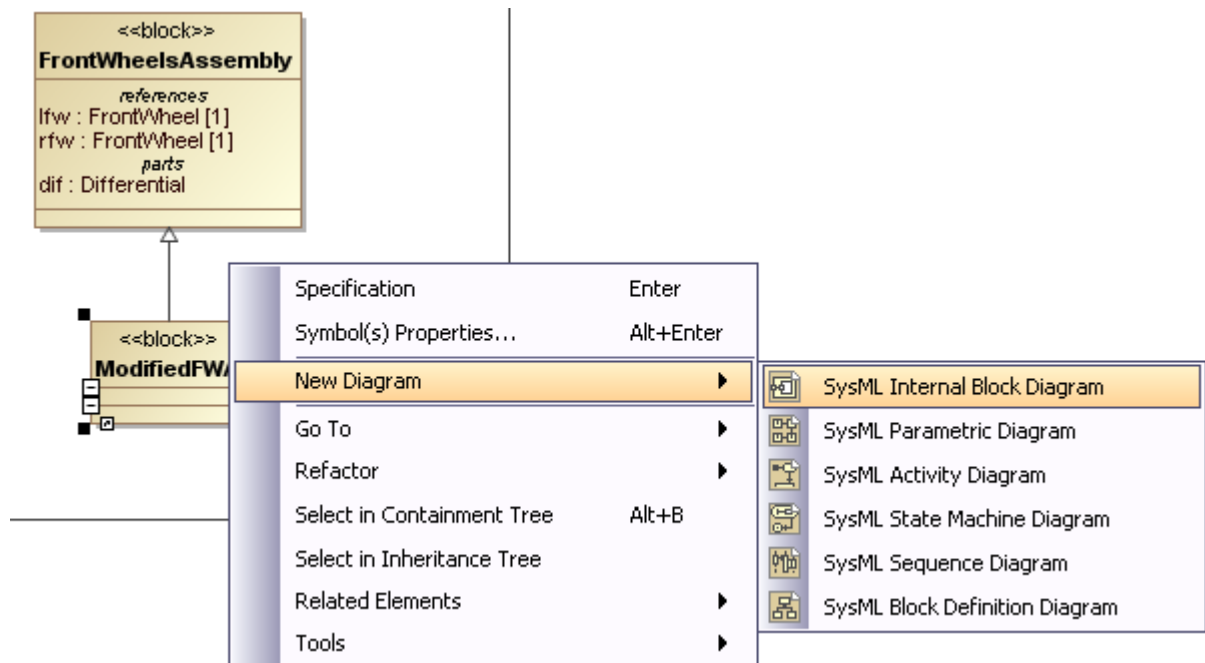
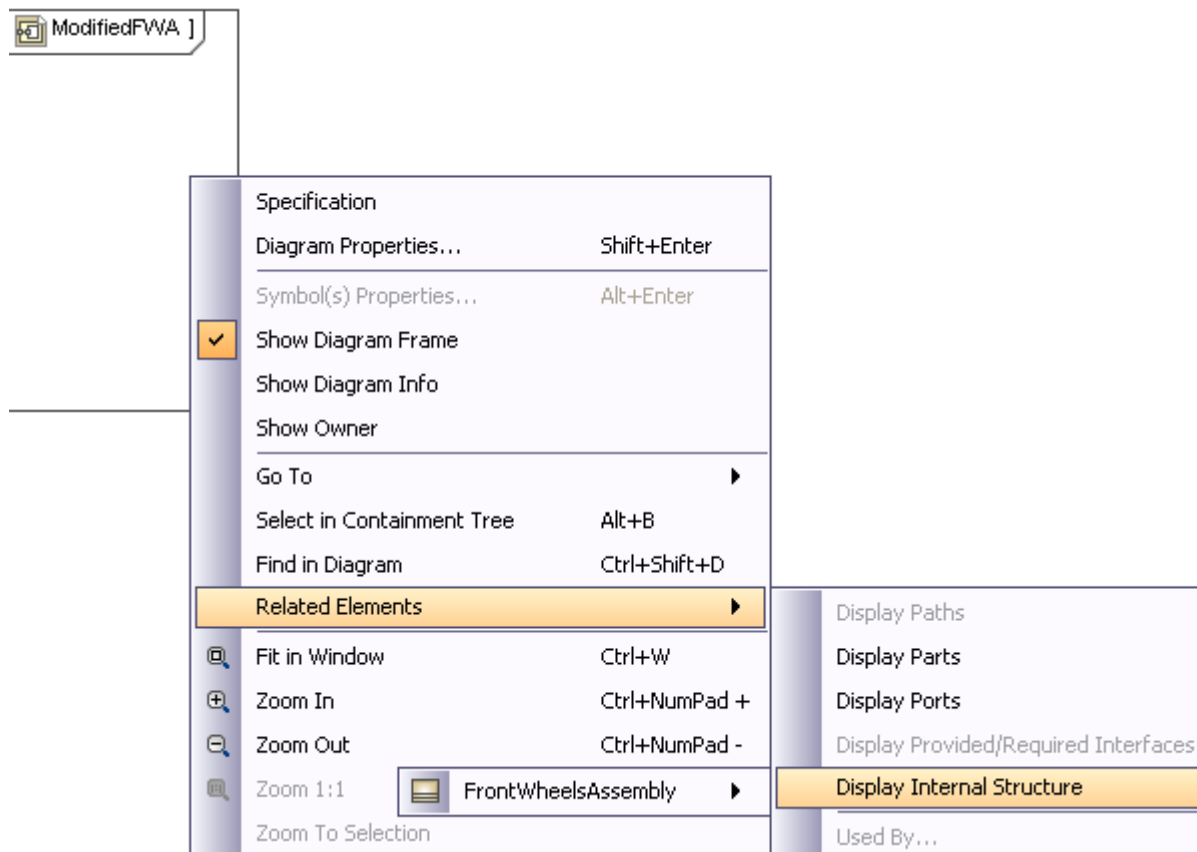
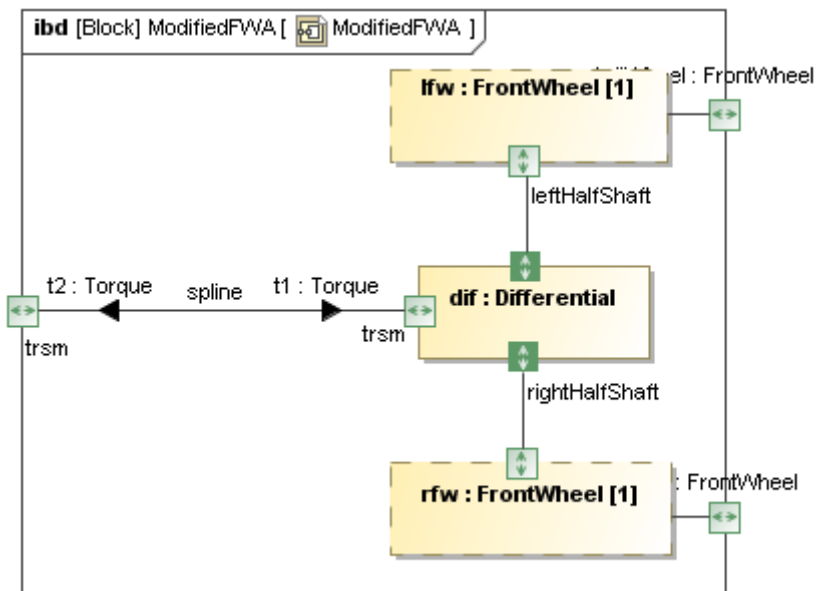

Figure 92 -- Creating an IBD for the Subtype of the FrontWheelsAssembly Block
Figure 93 -- IBD Shortcut Menu to Display Structure
Figure 94 -- Sample of Structure Displayed in IBD
3. You can also display the structure in a new blank IBD, having the **FrontWheelsAssembly** block or a subtype of the **FrontWheelsAssembly** block (Figure 92) as its context, using the IBD shortcut menu (Figure 93). The structure will be as in Figure 94.